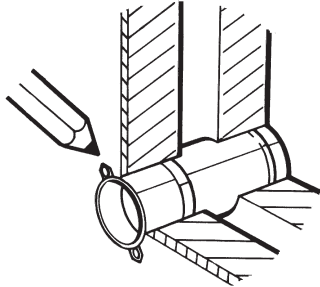

Fig. 73
7. Slide the assembled wall liner into the hole in the wall until the tags stop against the inner wall with the seam of the liner uppermost. Mark the positions of the holes in the tags on the wall and then rotate liner so that tags reveal marks (Fig. 73).